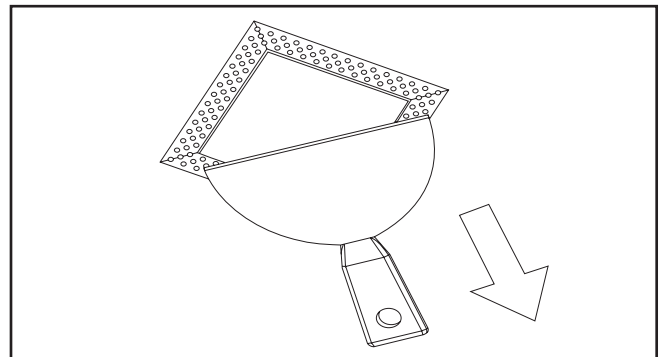

Figure 4.
**Note:** After filling all four flanges the bead may have some lumps of joint compound. To remove, run an 8" blade diagonally across the bead working the blade sideways (Figure 4).